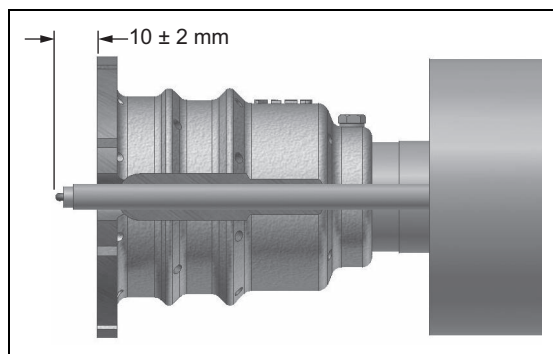

Figure 3.17a
2. Thread igniter through rear cover and through hole in nozzle. See Figure 3.17a.